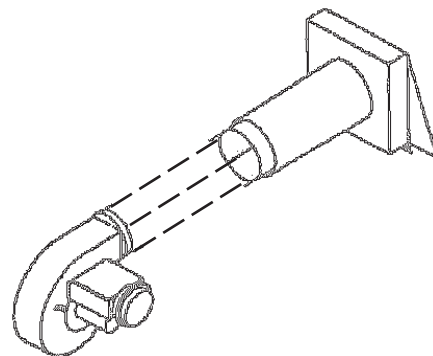

Fig. 4 Vent connection to power vent motor
3. Connect the power vent motor outlet to the inner sleeve of the vent hood (Fig. 4). Use the four pre-punched holes in the outlet collar of the power vent motor as a guide to drill $\frac{1}{8}$ " diameter holes into the vent pipe. Fasten power vent motor outlet to the vent hood inlet using sheet metal screws. Seal the connection with high temperature silicone sealant.